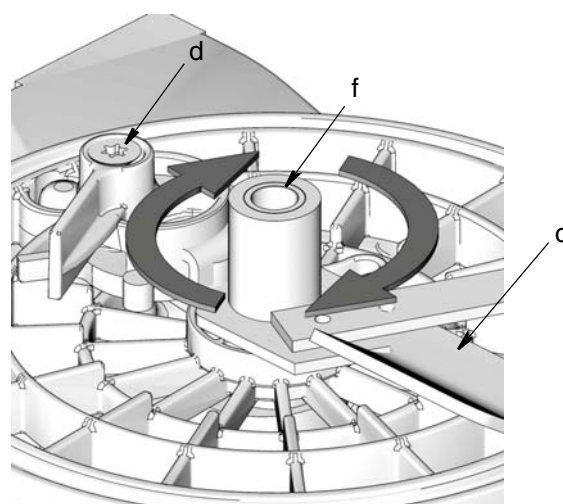

FIG. 5
2. Turn paddle (c) **clockwise** to loosen and remove it from G3 base (FIG. 5).